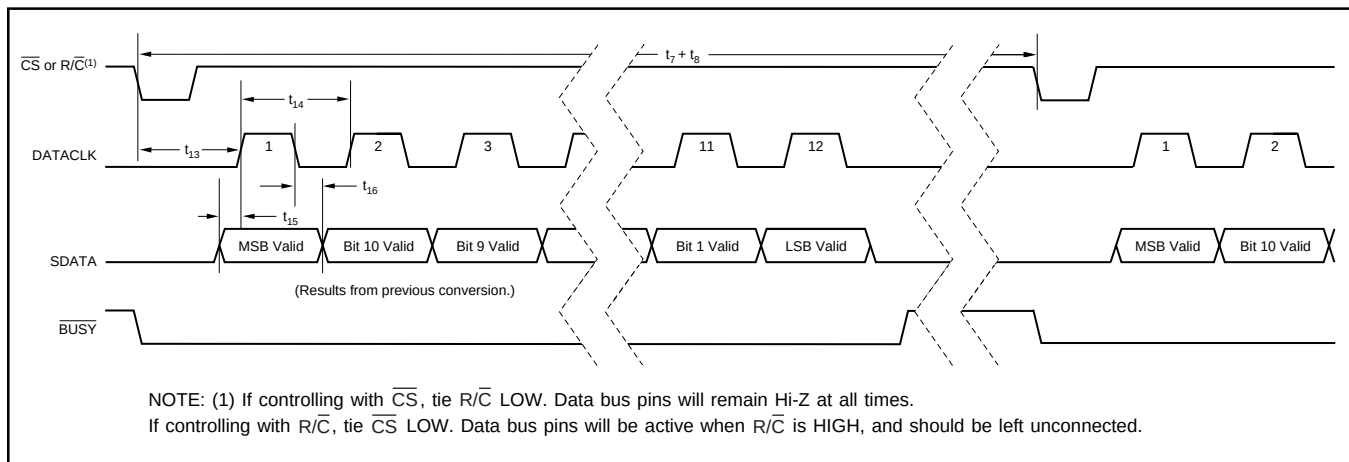

FIGURE 4. Serial Data Timing Using Internal Data Clock (TAG tied LOW).
NOTE: (1) See Figures 4, 5, and 6 for constraints on data valid from conversion 'n – 1'.
To use the internal data clock, tie $\text{EXT}/\overline{\text{INT}}$ (pin 8) LOW. The combination of $\overline{\text{R}/\overline{\text{C}}}$ (pin 22) and $\overline{\text{CS}}$ (pin 23) LOW will initiate conversion 'n' and activate the internal data clock (typically a 900kHz clock rate). The ADS7806 will output 12 bits of valid data, MSB first, from conversion 'n - 1' on SDATA (pin 19), synchronized to 12 clock pulses output on DATACLK (pin 18). The data will be valid on both the rising and falling edges of the internal data clock. The rising edge of $\overline{\text{BUSY}}$ (pin 24) can be used to latch the data. After the 12th clock pulse, DATACLK will remain LOW until the next conversion is initiated, while SDATA will go to whatever logic level was input on TAG (pin 20) during the first clock pulse. Refer to Table VI and Figure 4.